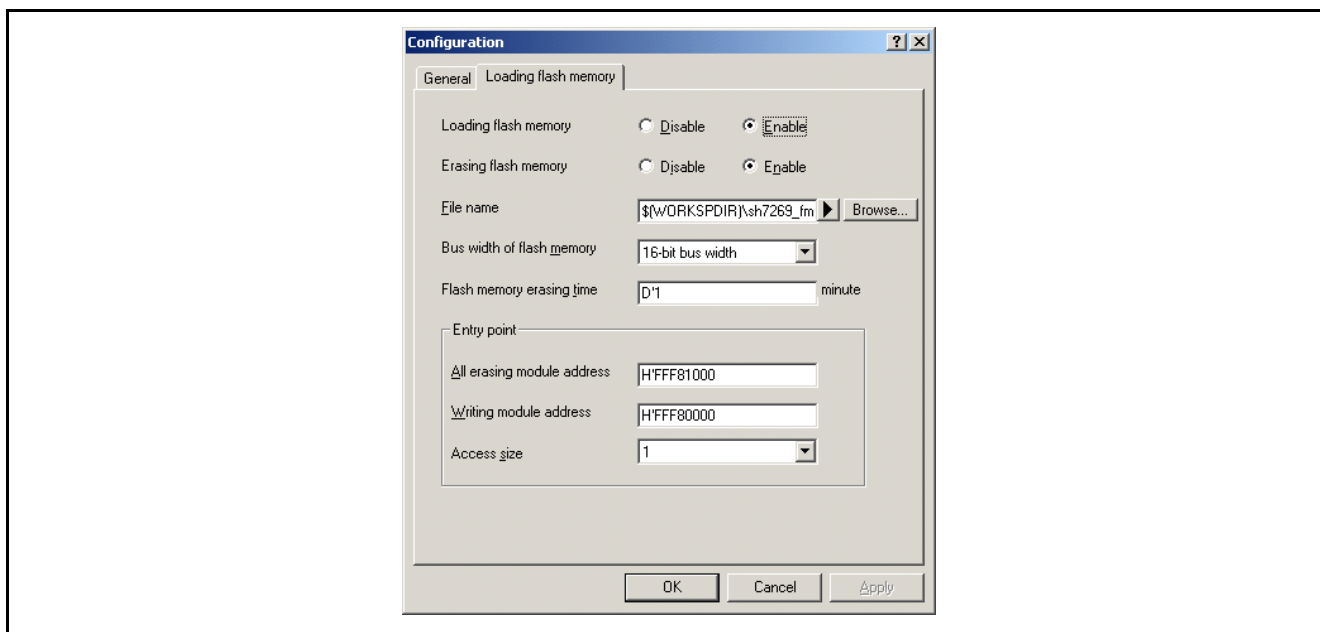

Figure 6.4 Configuration Dialog Box (in the page of loading flash memory)
2. Figure 6.4 shows the Configuration Dialog Box (in the page of loading flash memory) for setting to download a user program to the external flash memory using the E10A-USB emulator.